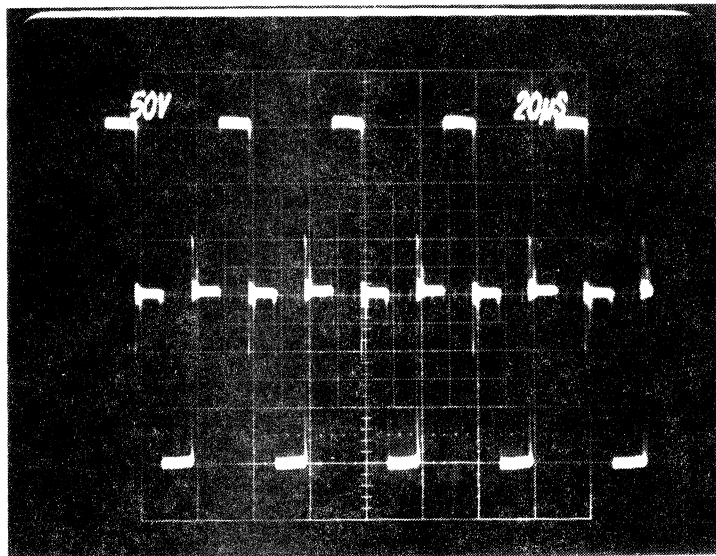

Fig. 13-7. Inverter Waveform - PHOT/PCAPS 2.
16. Turn the Variac voltage quickly up to 90-100 Vrms. The supply may shut down for about a second, but when it comes on, the waveform on the scope should be stable and higher in frequency than the previous ones. (See Fig. 13-7).